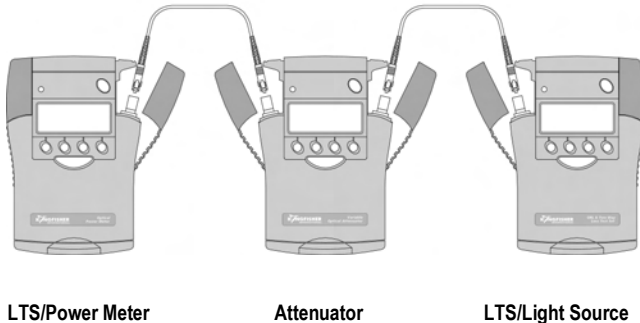

Figure 8. Test set up for Range and Linearity Test
1. Connect the equipment as shown in Figure 8. A single LTS can also be used, with connections to both ports.